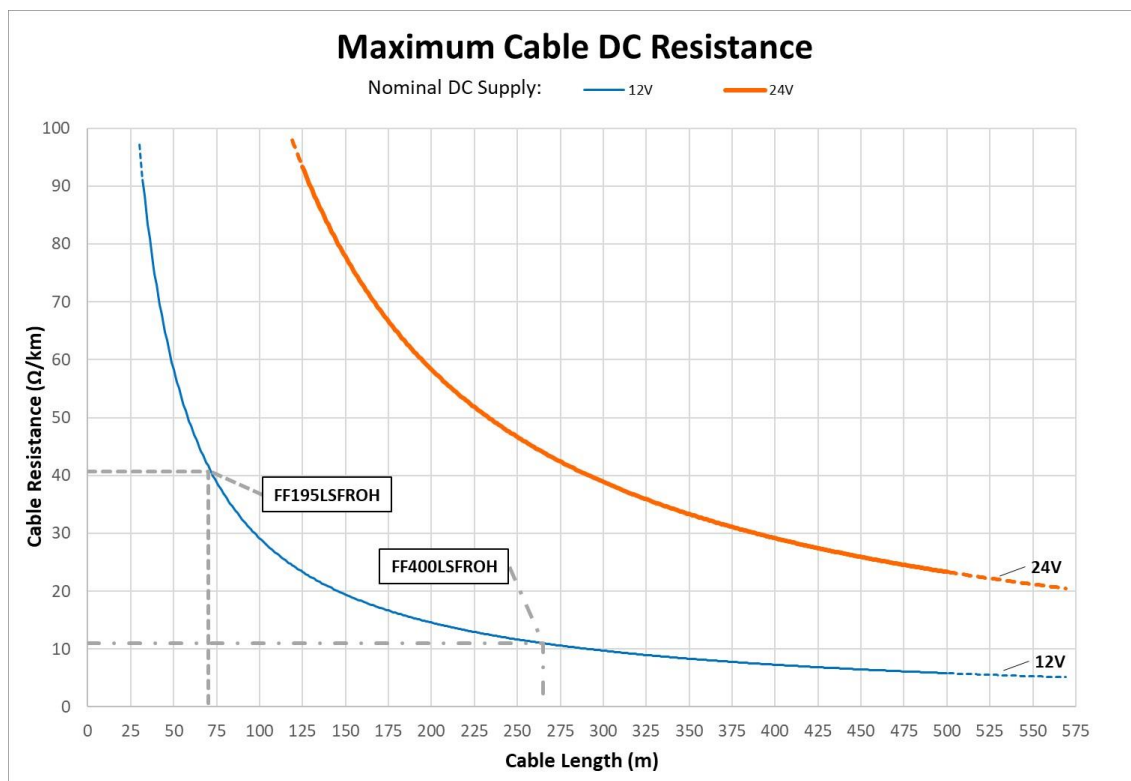

Figure 29: Coaxial Cable Total DC Resistance vs. Cable Length (12 VDC and 24 VDC).
The LT-3110S Control Unit and the LT-3130 Antenna Unit must be connected using a coaxial cable. Both the control unit and the antenna unit has a N connector (female) mounted. This section will specify the requirements to the coaxial cable. The minimum set of requirements are specified in Table 5 and Figure 29.
Maximum DC resistance	See Figure 29.
In Figure 29 two different input voltages (12 VDC and 24 VDC) illustrate the maximum length of the coaxial cable as a function of the DC cable resistance.
**NOTE:** The DC cable resistance that is illustrated in Figure 29 and used to calculate the maximum cable length is the sum of the DC inner conductor resistance and the DC outer conductor resistance. Some data sheets are not providing sufficient information about the DC resistance, in which cases, the cable manufacture must be approached to obtain this information.